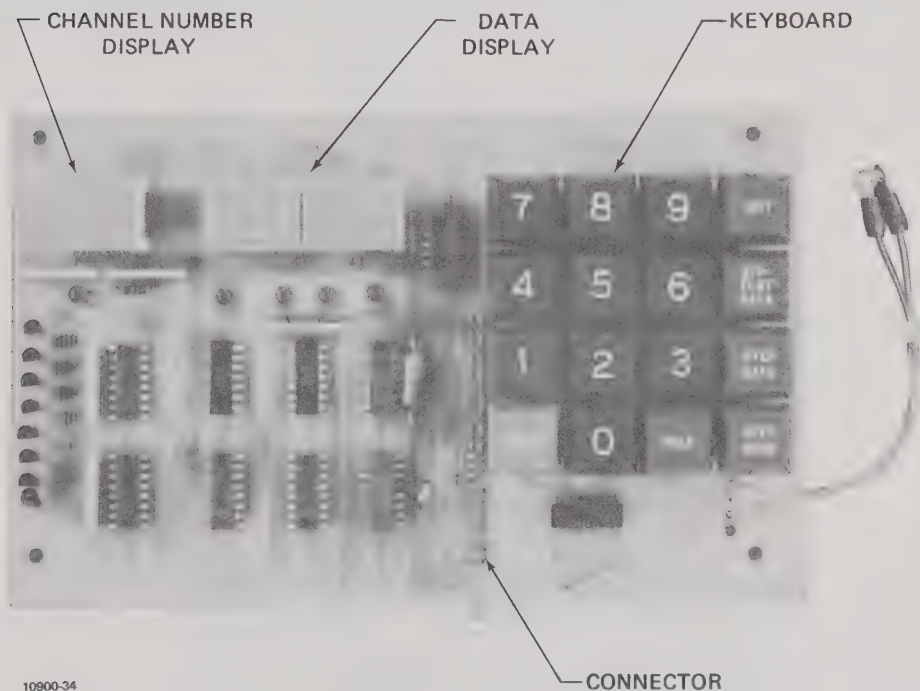

Figure 2.12 - Front Panel Board
2.2.9 Front Panel Board (See Figure 2.12) The front panel board houses the keyboard and display plus the necessary logic to operate them.